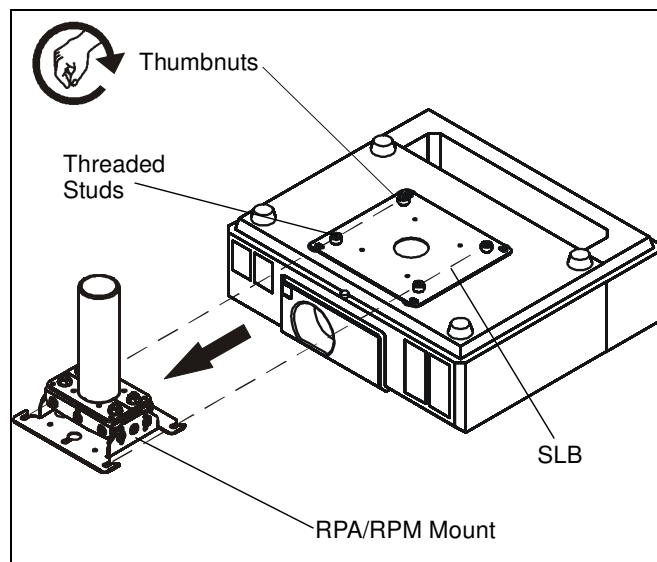

Figure 6
1. Ensure the SLB is installed on the projector. (See Figure 6) If the SLB needs to be installed, install it according to the installation instructions provided with the SLB.
3. For a pole-mounted RPA, slide the slotted openings on the RPA into the threaded studs on the SLB. (See Figure 6) Fasten the RPA to the SLB with thumbnuts and handtighten.